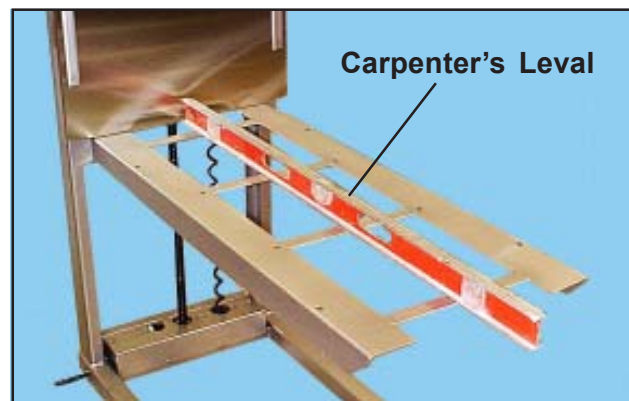

Figure 9. Carpenter's Level Lengthwise on Table Arms
4. Place the level *lengthwise* along the table (Figure 9).